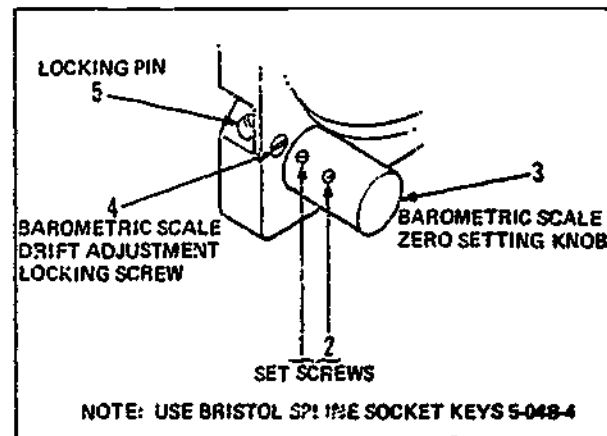

Figure 4-3. Barometric and Electrical Zero Reset
4.31. AAU-19/A ALTIMETER. KOLLSMAN A4132210002, A4132210003. Perform barometric and electrical zero setting and verification operations in accordance with the following procedures. (See figure 4-3.)